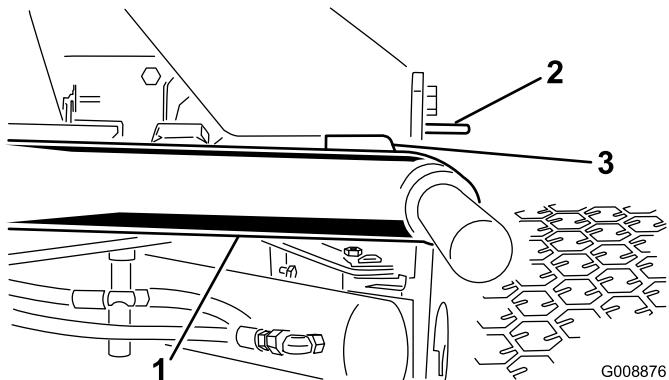

Figure 22
1. Start the engine, raise the lift arms, and check to ensure that the clearance between each lift arm and the floor plate bracket is 0.18 to 0.32 inches (5 to 8 mm) (Figure 22).